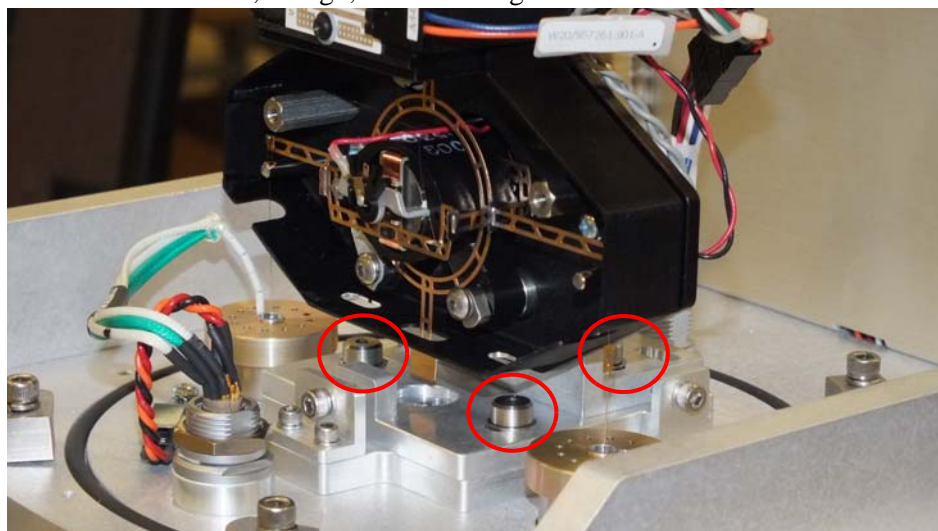

Figure 31 Balance alignment locking screws (3 shown).
- a Loosen the two outer left/right balance adjustment locking screws shown in Figure 31.